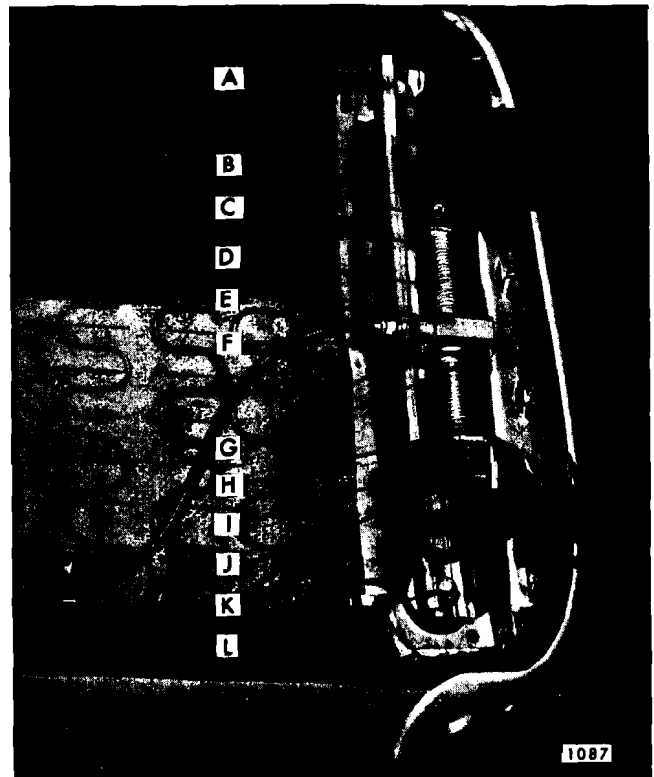

Fig. 15-11—Horizontal Power Adjuster - "C & E" Styles
curing gearnut to upper slide portion of seat adjuster (Fig. 15-11).
3. Using a suitable tool (preferably a "clutch" type screwdriver) remove two shoulder bolts securing gearnut to upper slide portion of seat adjuster assembly (Fig. 15-11).
4. Remove retainer that secures stop bracket crosspin to adjuster front pedestal and remove crosspin (Fig. 15-11).
2. Using a suitable tool (preferably a "clutch" type screwdriver), remove two shoulder bolts securing gearnut to upper channel to seat adjuster assembly (Fig. 15-11).